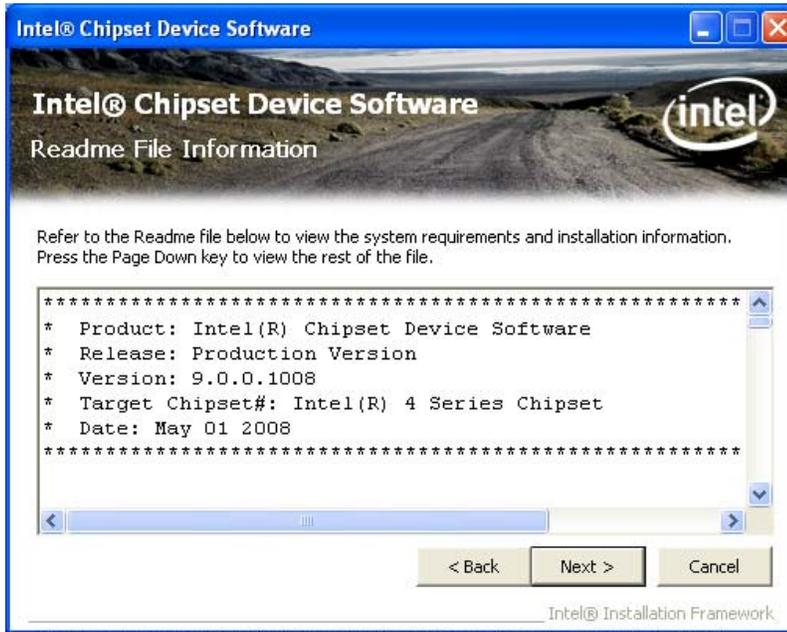

Figure 7-4: Chipset Driver Read Me File
Step 10: The Read Me file in Figure 7-4 appears.